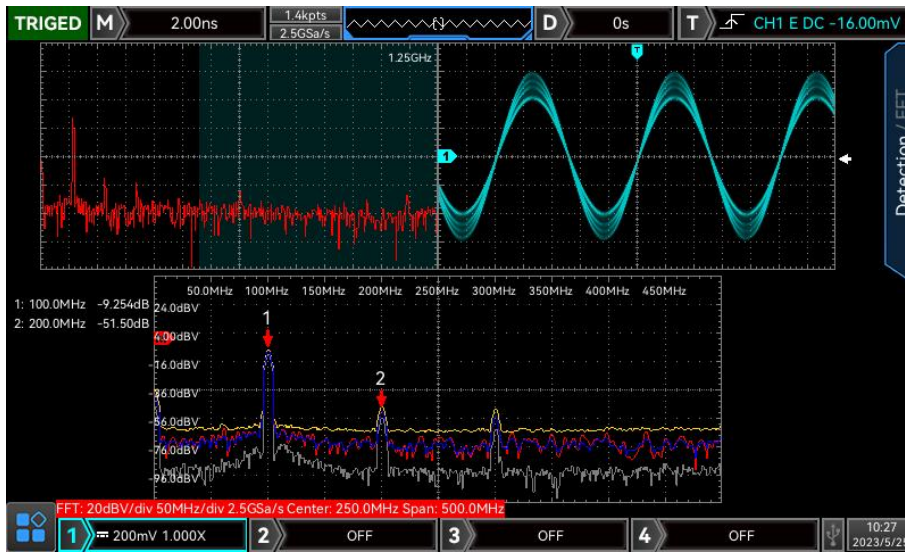

Figure 15-1
a. **Split screen:** Display the source waveform and the waveform of FFT spectrum waveform in split screen, and extend display the spectrum. As shown in Figure 15-1.